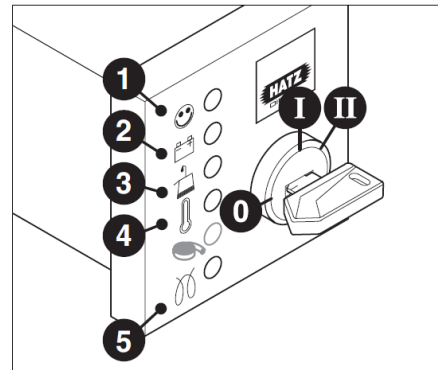

Figure 2 – Starting the Engine
- 5.3.1 Insert the key fully and turn to position “I” (Figure 2). Battery charge telltale (2) and the oil pressure warning (3) must light up.
- 5.4.2 Turn the key to position 0 (Figure 2) and remove. All indicator lights will go out.